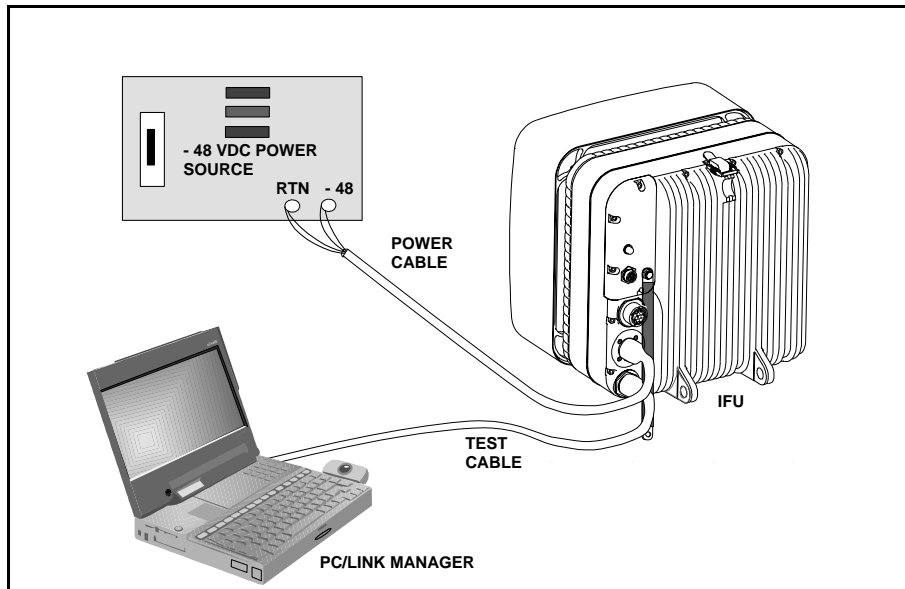

Figure 2-4. IFU Configuration Setup
- 12 Connect – 48 Vdc power cable to the power connector on the IFU as illustrated in Figure 2-4.
- 14 Connect a laptop computer to the IFU as shown in Figure 2-4.